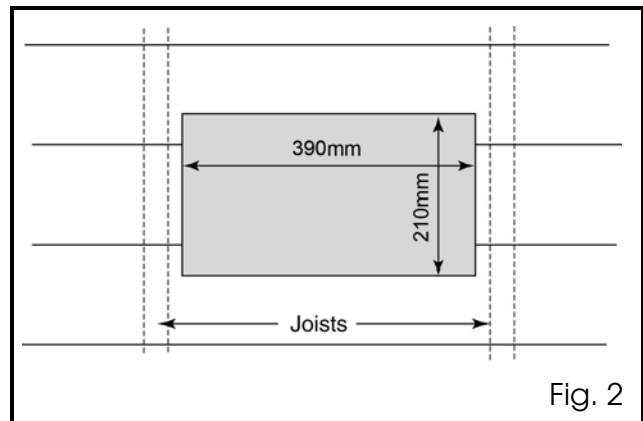

Fig. 2
1. Mark the hole position, the dimensions being **390mm x 210mm** (see Fig.2).